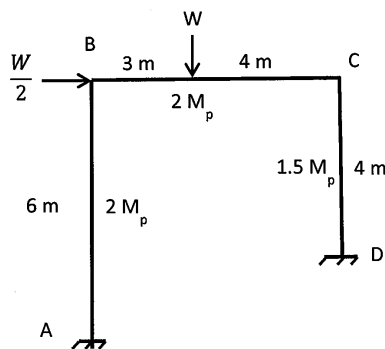

Figure 1
- Q7)** Find the collapse load W for the portal frame as shown in figure 1. [18]